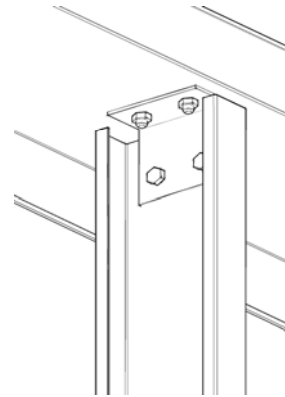

FIGURE 4
- d. Attach the Clips, (Part SC-011-GV), to both ends of the Vertical Channels with (2) $\frac{3}{8}$ " diameter bolts. The 3" leg of the clip attaches to the Vertical Channel.
- e. Using $\frac{3}{8}$ " diameter bolts, attach the tabbed end of the Vertical Channel, open "C" facing toward the center, to the drilled girt holes. Level and plumb the Vertical Channel in both directions. Using the top connection clip, mark the hole locations and drill $\frac{7}{16}$ " diameter holes in the upper girt or eave strut. Bolt together with $\frac{3}{8}$ " bolt/nuts. **(Figure 4)** Repeat for other Vertical Channel.